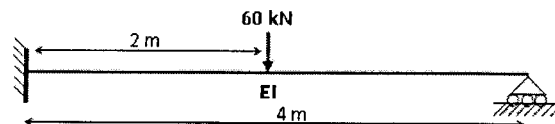

Figure: 3
- h) Determine the Reaction at the prop of a beam loaded as shown in figure 3. [3]